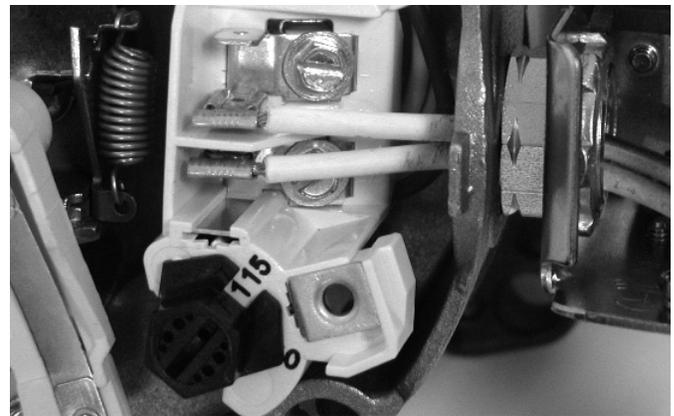

Figure 11: Voltage set to 115 volts, Dial Type
2. Turn the dial counter-clockwise until 115 shows in the dial window as shown in Figure 11.
- Step 1. Connect the ground wire first as shown in Figure 11. The ground wire must be a solid copper wire at least as large as the power supply wires.
- Step 4. Connect the power supply wires to the pressure switch as shown in Figure 11.